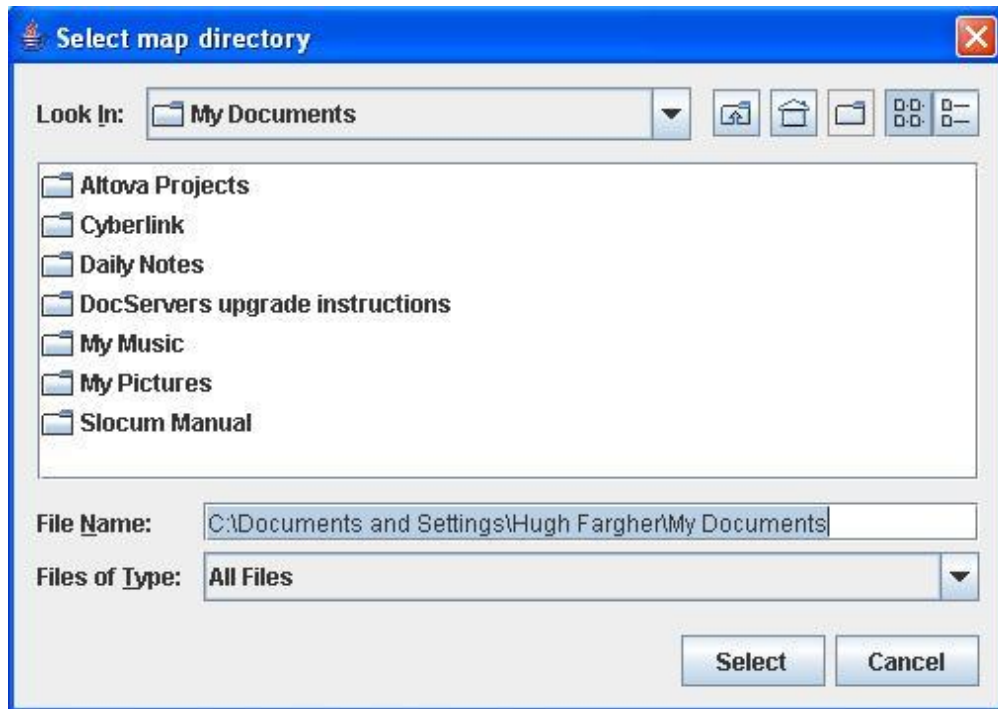

Figure 8-7. Local File System Map Selection dialog.
1. Select Maps/Load map from.../Local file system, from the Glmpc Terminal's menu bar. A Select map directory dialog (similar to that shown in Figure 8-7) will appear.
1. Select Maps/Create Map from the Glmpc Terminal's menu bar. A Select image file dialog (similar to that shown in Figure 8-7) will appear.